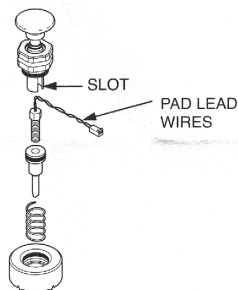

FIGURE 5
8. Position the upper body so that the slot in the stem base straddles the PAD lead wires. See Figure 5.